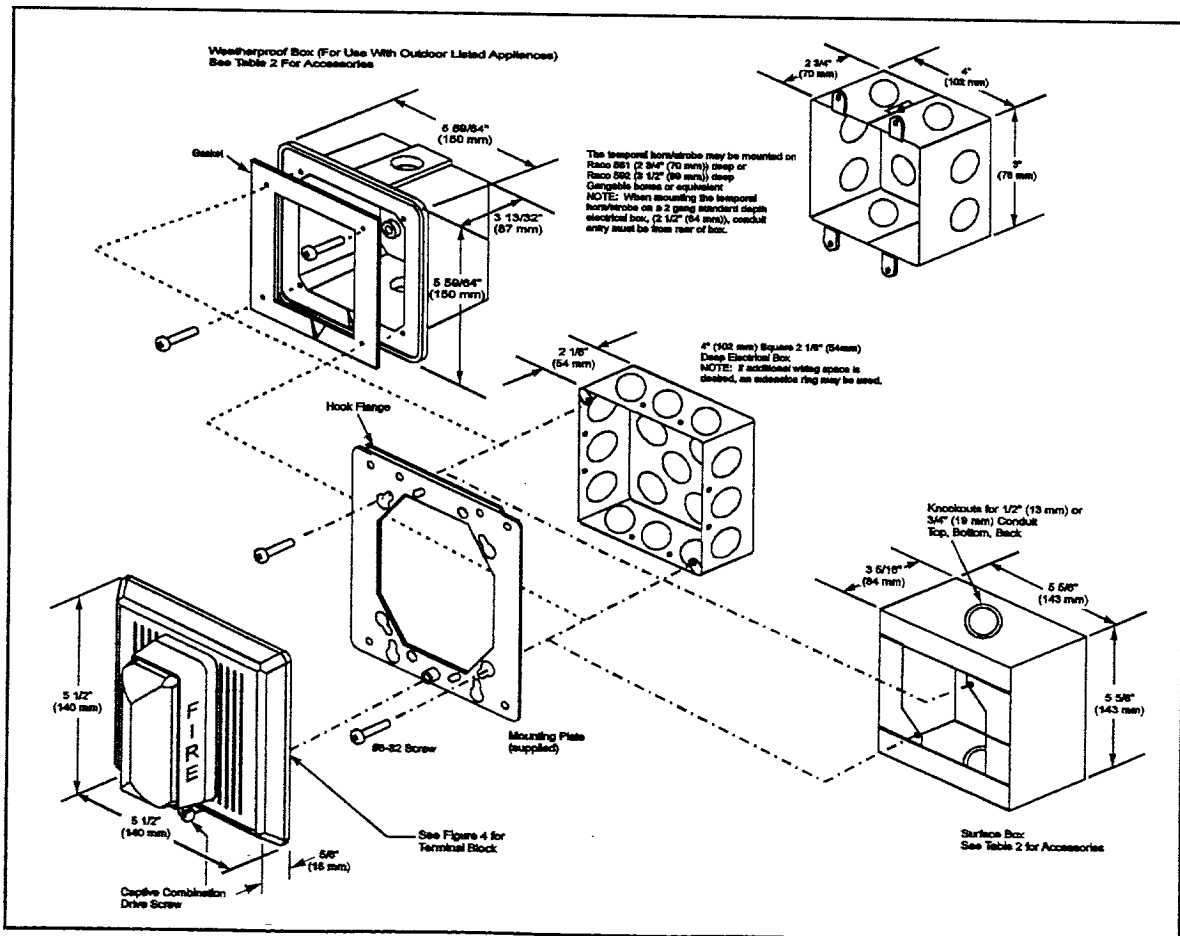

Figure 1. Mounting the Temporal Horn/Strobe
3. Select an electrical box as shown in Figure 1 or Table 2. Install the box using suitable hardware. Attach the mounting plate to the electrical box.
NOTE: Be sure hook flange is facing outward as shown in Figure 1.
6. Mount the horn/strobe assembly on the mounting plate (Figure 1).